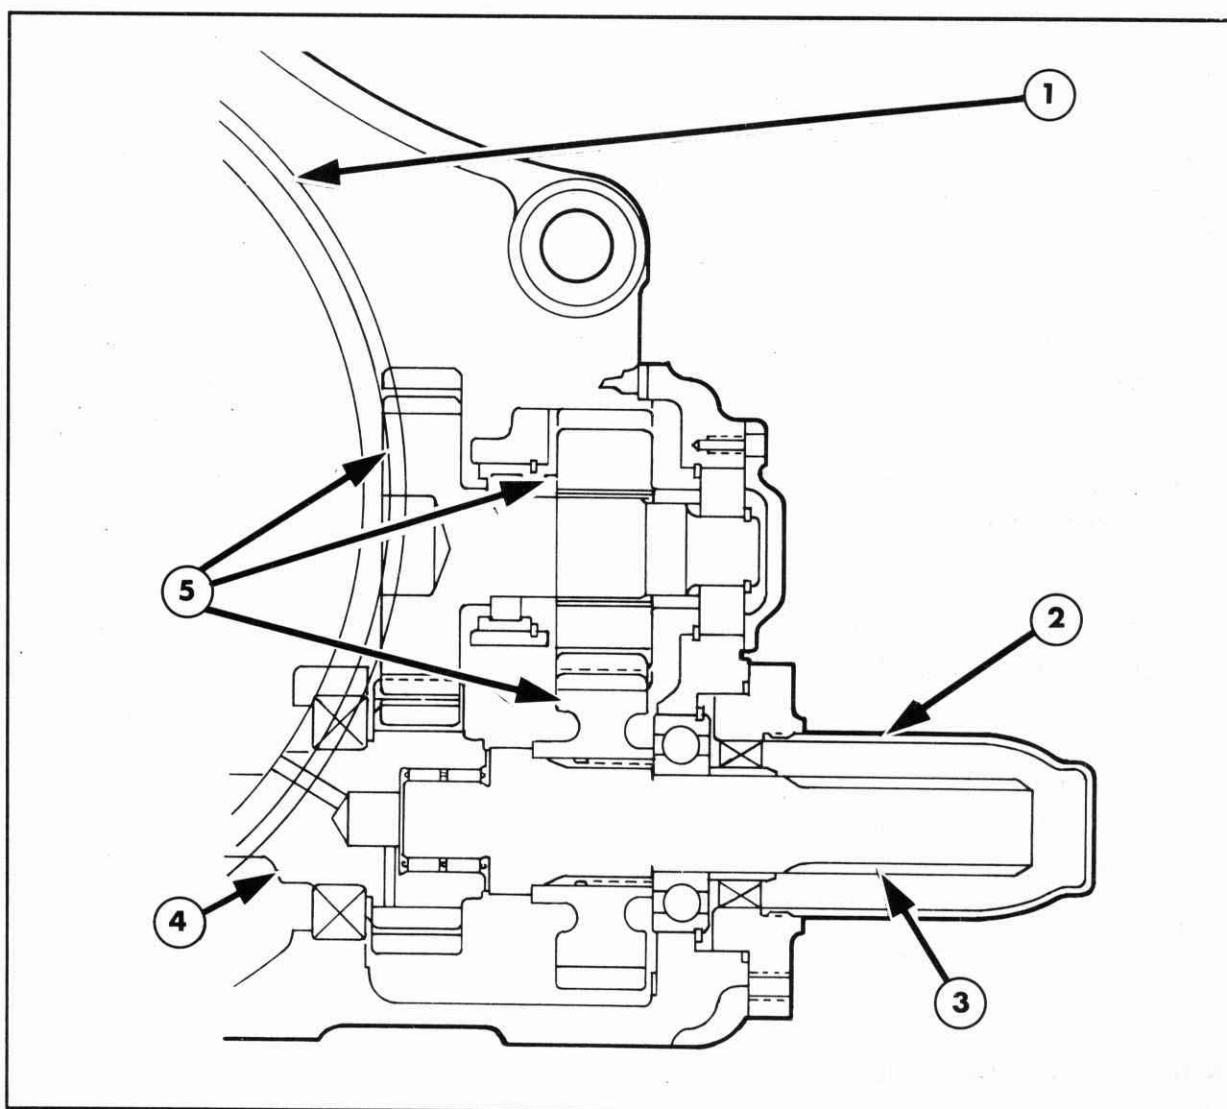

Figure 6-17
Refer to Figure 6-17.
3. Remove the drop box, Figure 6-17, as an assembly from the center housing.
4. Remove the bearing end caps retaining the gears and shaft, Figure 6-17.
See Figures 6-17 and 6-18.